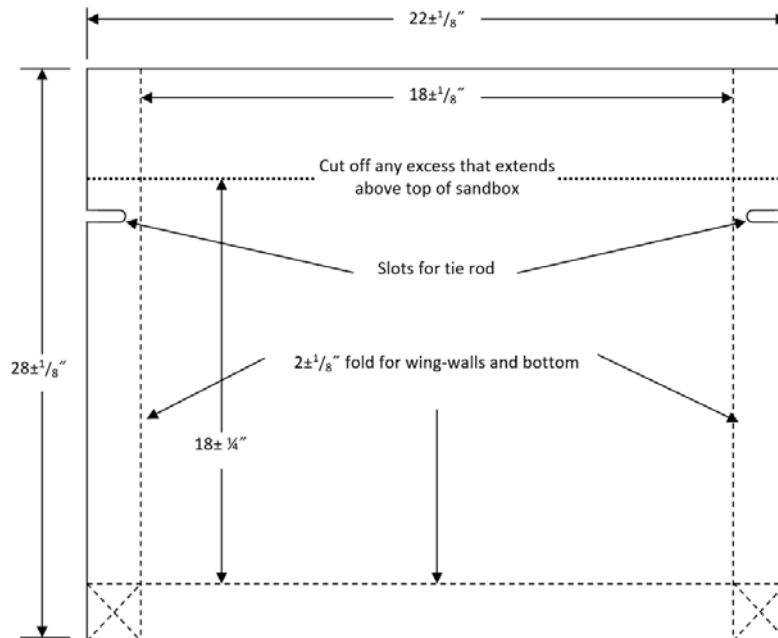

Figure 6: Dimensions of the poster board wall facing (not to scale)
- a) Facing – One piece of poster board. See Figure 6 for dimensions.
- a) **Reinforcement Fabrication Stage** – Each team will be provided with a single sheet of 60 lb kraft paper approximately 24 in × 24 in. The team must fabricate all their reinforcing elements from this sheet using authorized construction tools. Fifteen (15) minutes will be allotted for this stage. Teams will be penalized for time exceeding the time limit. After all reinforcing elements are fabricated, excess material will be disposed of and the judges will weigh the reinforcing elements to the nearest 0.01 grams.
- b) **Wall Assembly Stage** – After each team’s reinforcing elements have been fabricated and weighed, the team will be provided with a sheet of poster board (22 in × 28 in) and a roll of packing tape. The team must assemble their wall using these materials and authorized construction tools. Dimensions for the wall facing area shown in Figure 6.